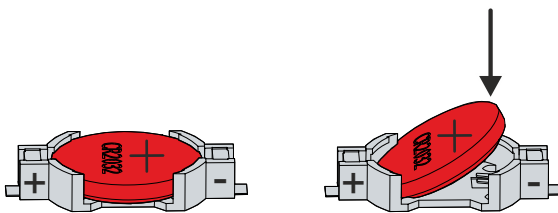

Fig. 13: Battery change
- ⇒ The battery is now in an oblique position (see fig. 13).
5. Push the high side of the battery down into the battery holder (see fig. 13).